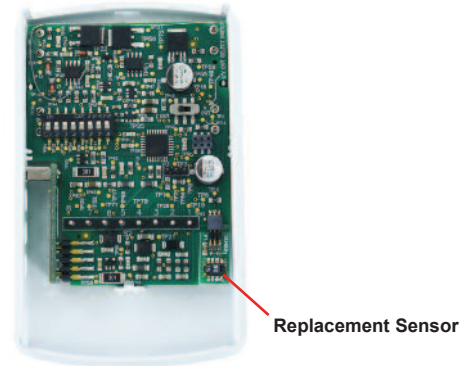

Figure 6
2. Remove existing sensor as shown in Figure 6.